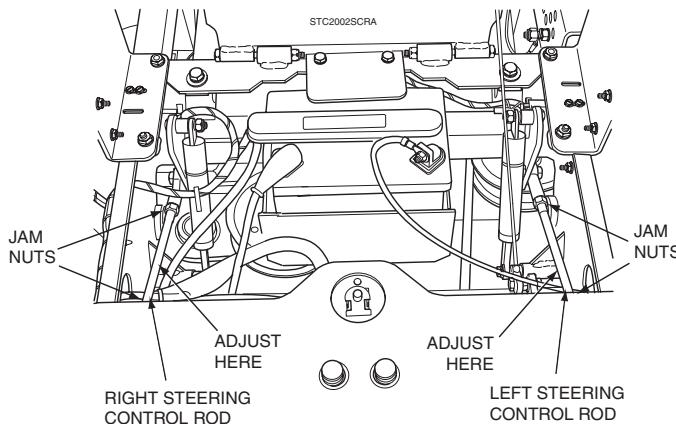

Figure 6-3. Steering Control Rod Adjustment
4. Adjust the RH wheel by loosening the jam nuts on the steering control rod and turning the rod until the drive wheel turns in the forward direction. Turn the rod back until the drive wheel stops moving. Turn the rod an additional 1/2 turn. See Figure 6-3.
5. Tighten the jam nuts and repeat for the LH wheel. See Figure 6-3.
- A. Stop the machine and place the steering control levers in the neutral position. Loosen the lock nuts securing the ball joints at each end of the LH steering control rod. Rotate the control rod to lengthen the rod and tighten the lock nuts. This will cause the control rod to stroke the LH pump less, slowing down the LH wheel. See Figure 6-3.
A. Stop the machine and place the steering control levers in the neutral position. Loosen the lock nuts securing the ball joints at each end of the RH steering control rod. Rotate the control rod to lengthen the rod and tighten the lock nuts. This will cause the control rod to stroke the RH pump less, slowing down the RH wheel. See Figure 6-3.
When the clutch is disengaged, the air gap between the armature and rotor must be adjusted to fifteen thousandths of an inch, 0.015, for proper operation. The airgap adjustment is made at three bolts on the clutch. There are three inspection windows, one next to each adjusting bolt. See Figure 6-3.